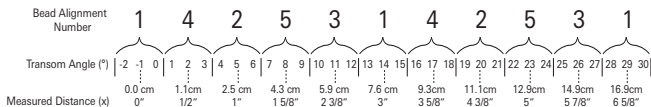
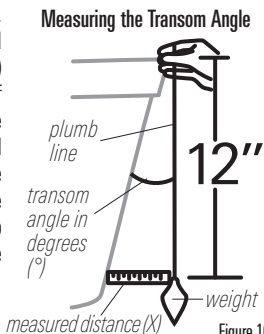

Figure 15
Figure 16
- If you already know your transom angle, refer to the chart below for the initial position to use to set the ratchets (Figure 15). If your transom is angled at 14 degrees (a common transom angle for many boats) use position 1 for the ratchets. In either case, go to step 2.
- If you do not know your transom angle, measure it using a plumb line (weighted nylon string or monofilament line) exactly 12 inches long. Hold the top of the plumb line against the top of the transom with your finger, and wait until the line hangs straight down (Figure 16). Using a ruler, measure the distance from the **bottom** of the plumb line to the back of the transom, then use the chart (Figure 15).
NOTE: It is important to take your measurement in the location shown in Figure 16, from exactly 12 inches down from the top of the transom.